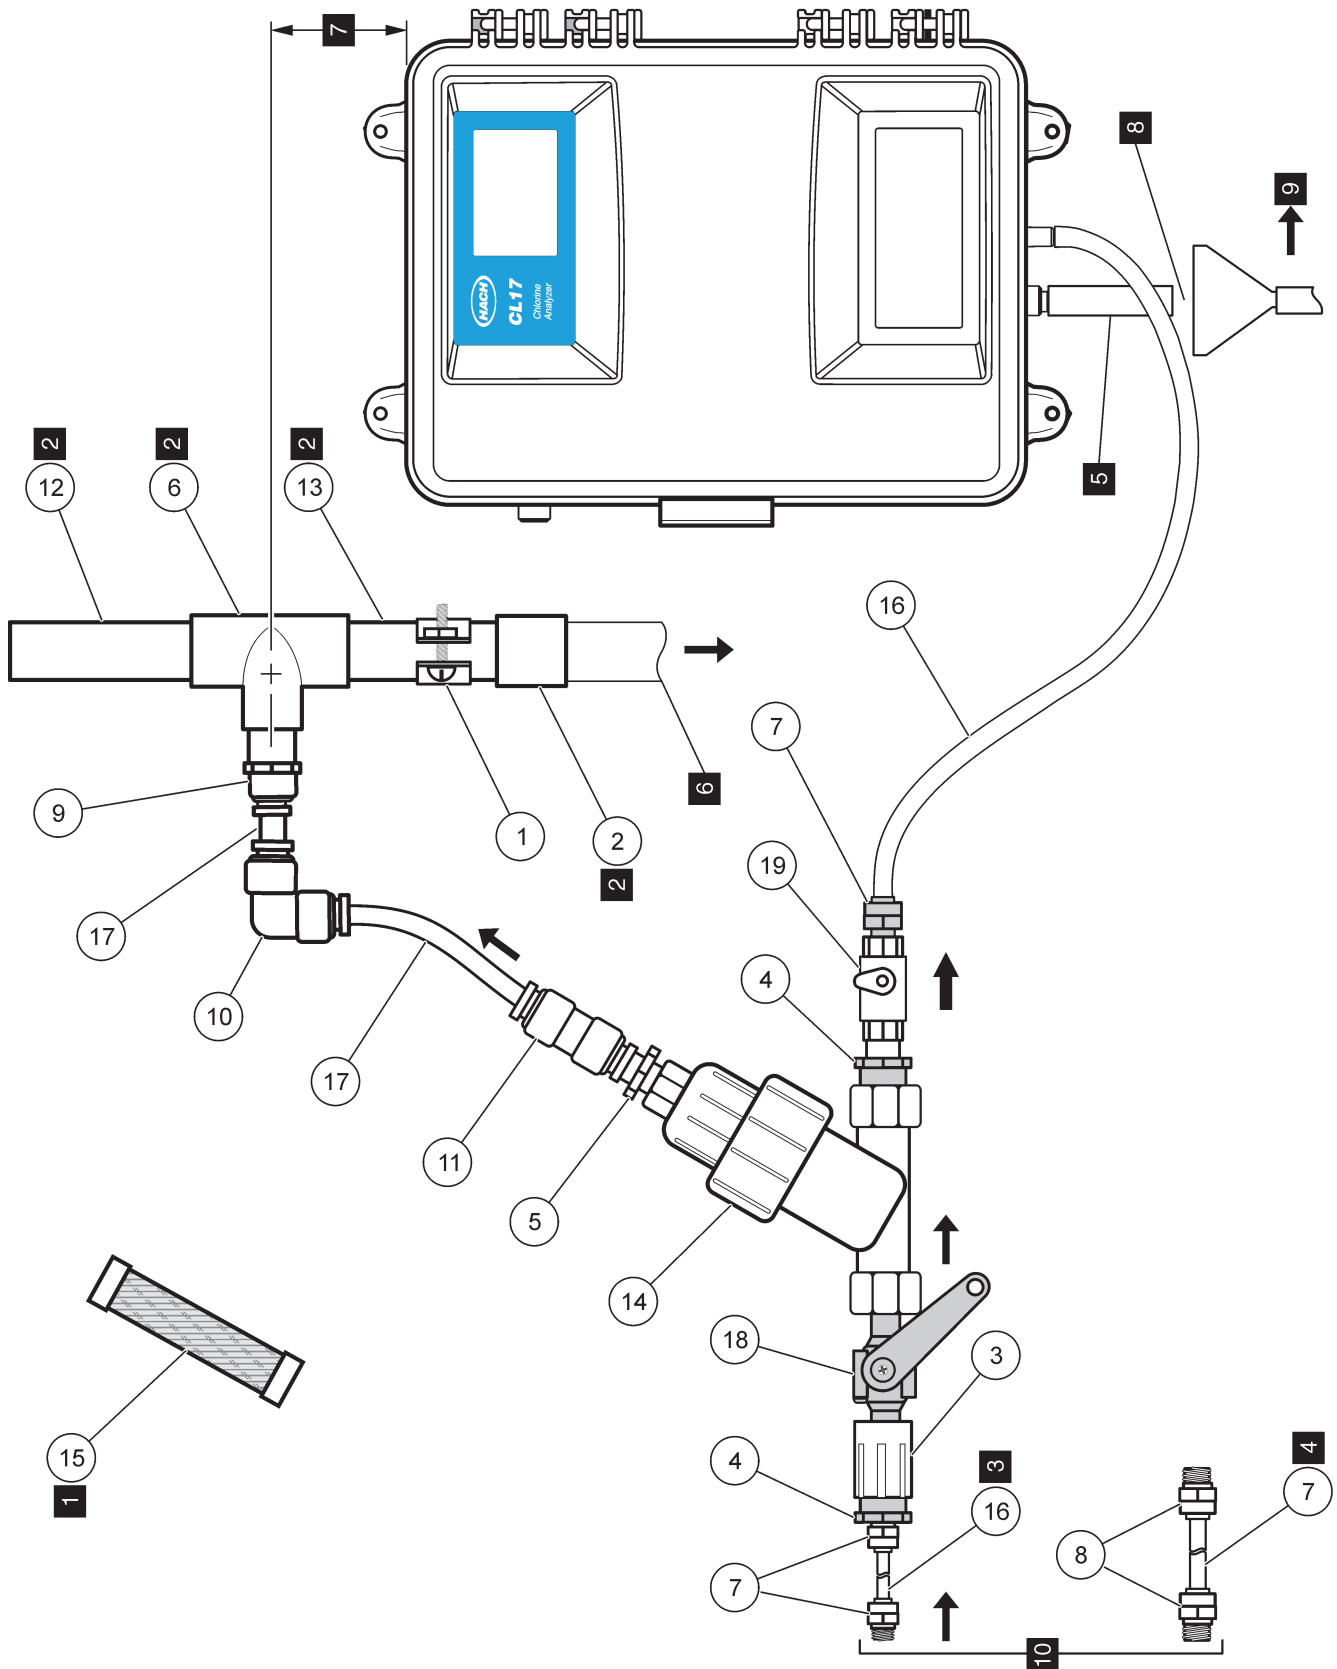

Figure 7 Sample conditioning kit
Mount the centerline of the bypass drain tee two feet above the instrument. Refer to Figure 7. When properly mounted, the vacuum breaker design of the bypass drain tee prevents negative sample pressure and establishes the needed positive sample pressure for sample flow through the analyzer.
Refer to the complete system diagram in Figure 7 and the tips in Table 3 to assemble the components.
Assemble the head height regulator (stand-pipe) and filter as shown in Figure 7. Make sure the sample pressure to the sample conditioning is between 1.5 and 75-psig for proper operation.
1. Set flow by adjusting the ball valve (item 18, in Figure 7). The valve is fully closed when the lever is perpendicular to the valve body and fully open when the lever is parallel with the valve body.
2. Observe the flow in the unfiltered sample bypass (clear tube, item 13 in Figure 7). Make sure the flow is adjusted so there is always bypass flow.
3. Use the ball valve (item 19) to turn off sample flow to the instrument.
Table 1 Sample Conditioning Parts List (refer to Figure 7)
Table 2 Sample condition kit parts list notes for Figure 7